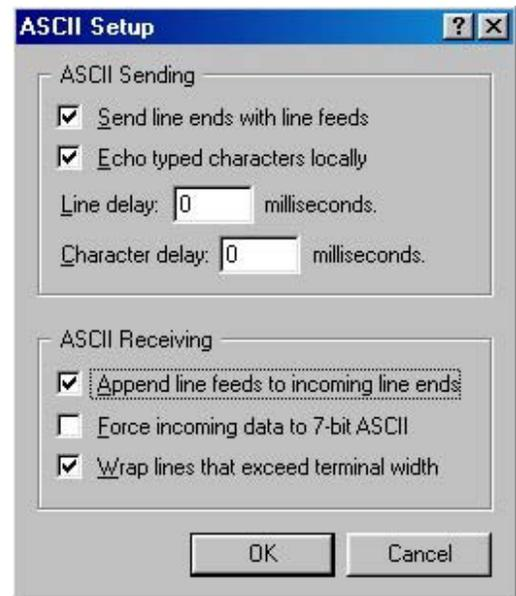

Figure 42
Step 10: Select the fields in the *ASCII Setup* screen (Figure 42) as shown.